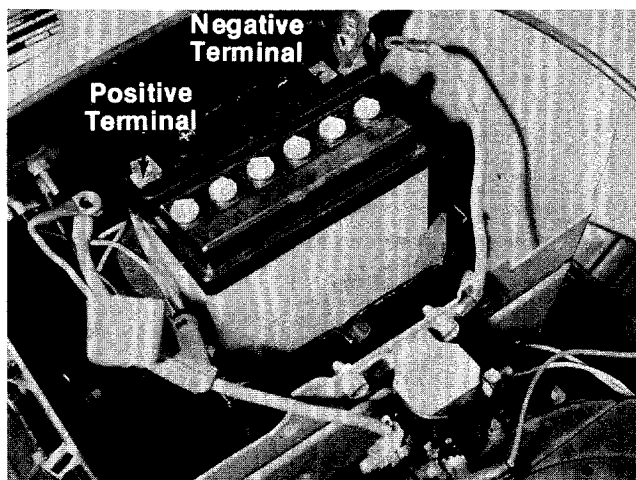

FIGURE 9.
- Place the battery in the rider so that the positive terminal is towards the **right** side of the unit. See figure 9.